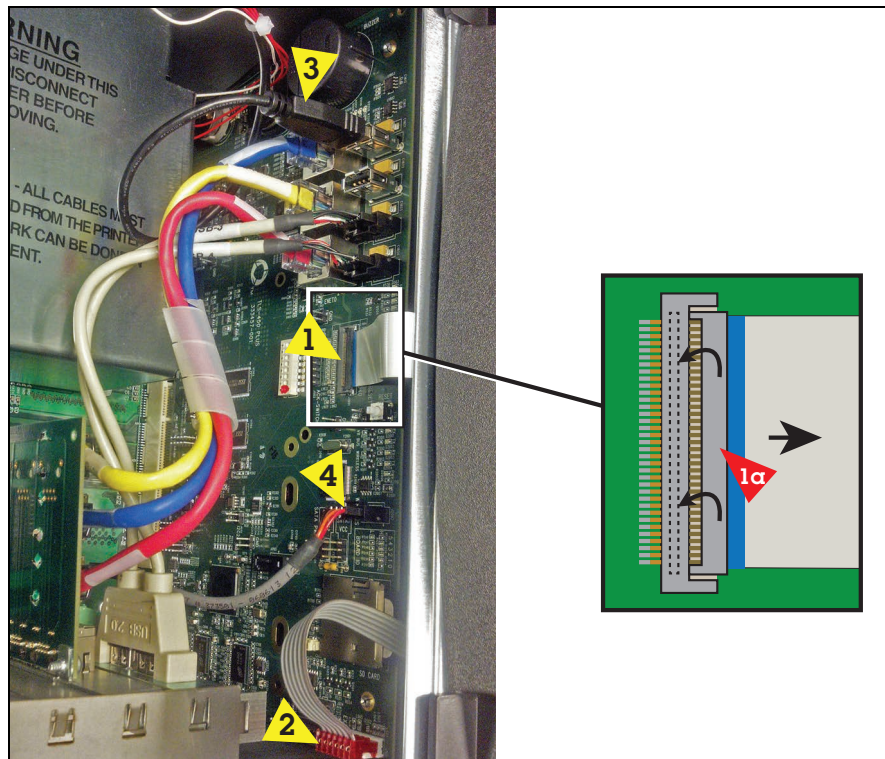

Figure 5. Remove Optional Printer and Display Cables from CPU Board
- Figure 5. Remove Optional Printer and Display Cables from CPU Board 5
For right doors with the optional touch display, remove the Display Data cable (pointer 1 in Figure 5) from the CPU board connector. Rotate the locking member of the cable's Display connector (1a pointer) up 90° from the connector's fixed base and slide cable end out
- Remove the LED cable (pointer 2 in Figure 5) from the CPU board connector.
4. If a printer is installed, remove the printer's USB cable (pointer 3 in Figure 5) from the top USB connector (USB 1).
5. Remove the Wireless cable (pointer 4 in Figure 5) from the CPU board connector.
19. Reconnect the optional Printer, LED and Wireless cables (ref. Figure 5).
6. Reconnect the optional Printer cable to the USB1 connector, LED and Wireless cables (ref. Figure 5).